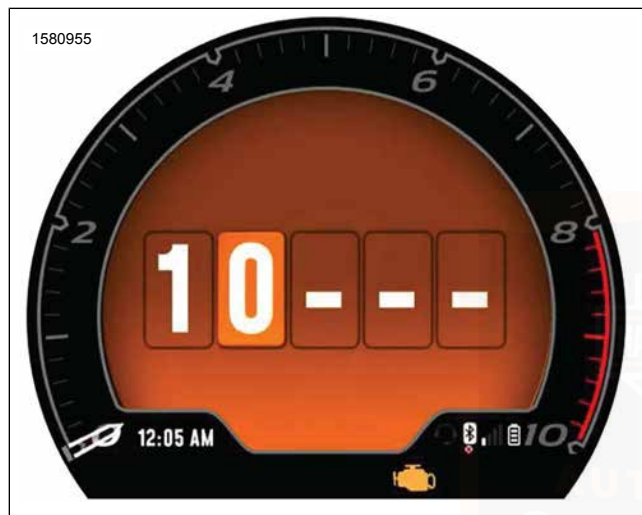
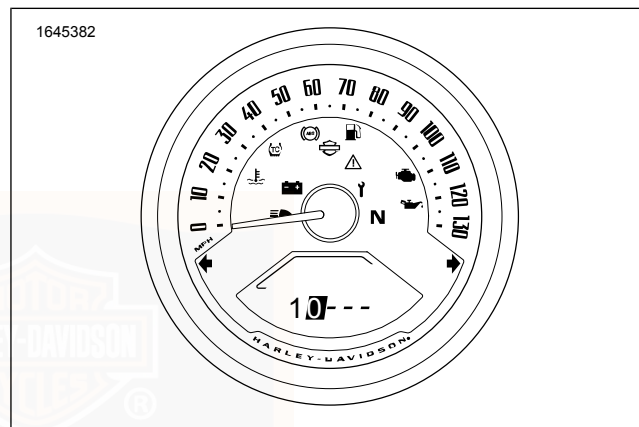

Figure 26. Moving Cursor to Next Digit (With Infotainment)
Figure 27. Moving Cursor to Next Digit (Without Infotainment)
2. See Figure 26 and Figure 27. Select the next digit.